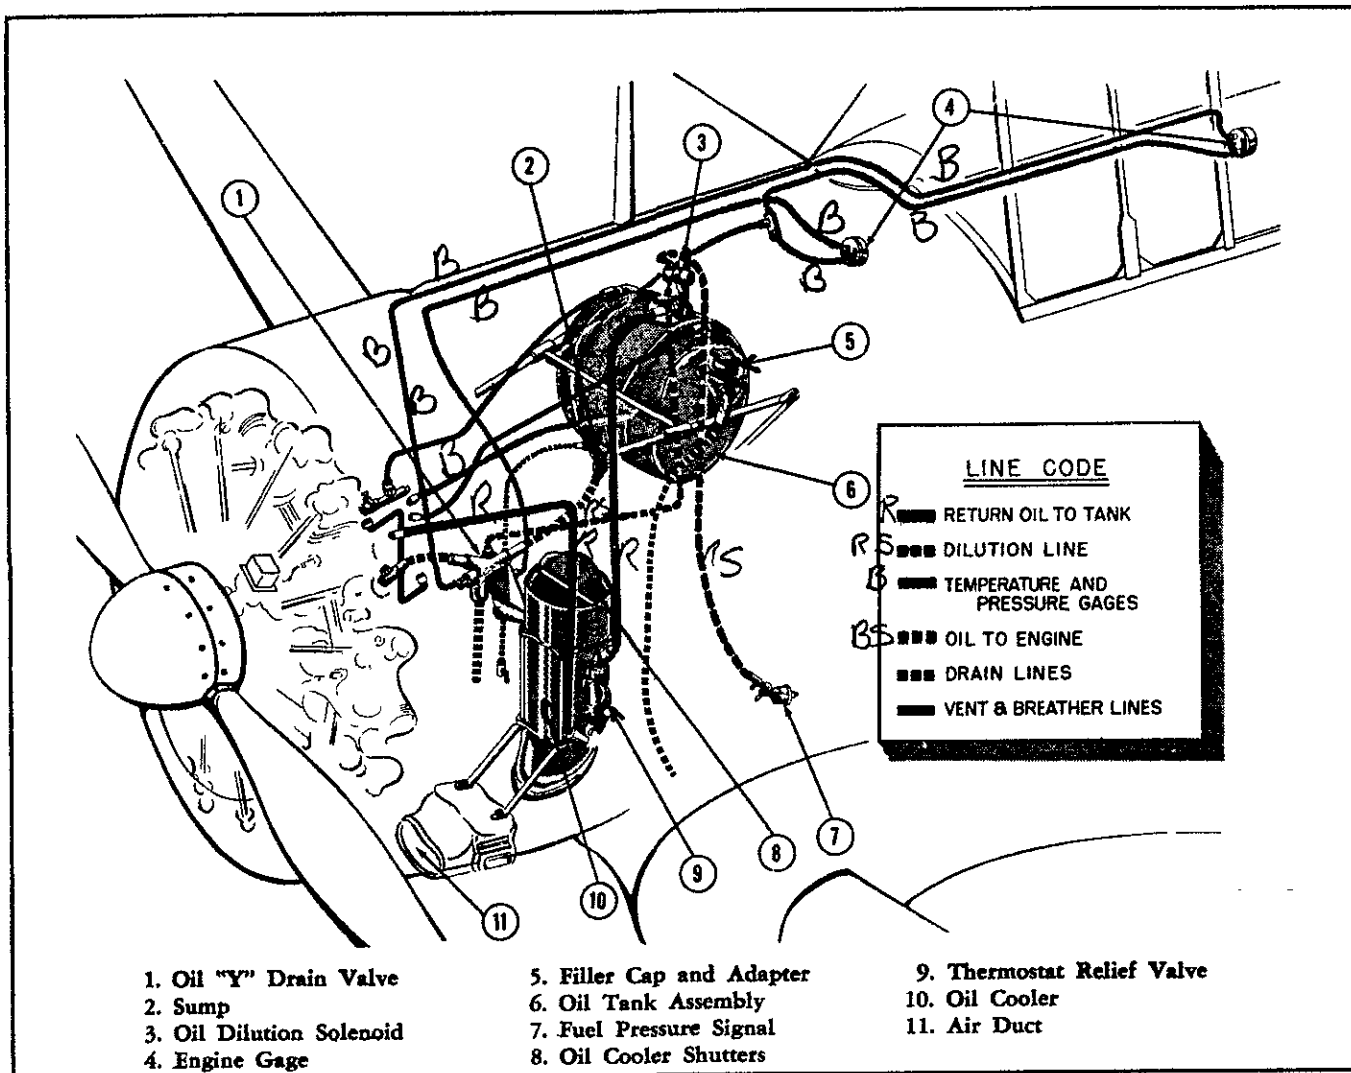

Figure 4—Oil System
9. OIL SYSTEM. (See figure 4.)